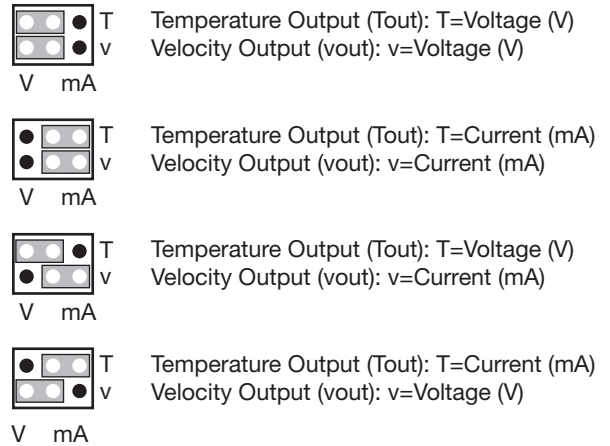

Figure 3b
- 1) Select the output mode, Current (4-20mA) or Voltage (0-10V), by installing jumpers as shown in Figure 3b. Both outputs, Temperature (T) and Velocity (v), are configured separately.